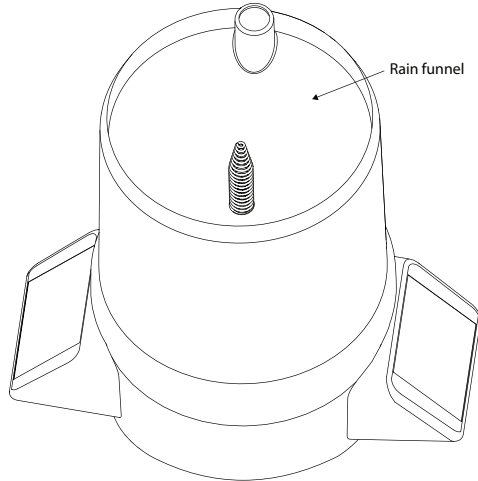

Figure 37 Rain funnel and pyranometer
- b. Rain funnel (Figure 37)
- c. Pyranometer (Figure 37)